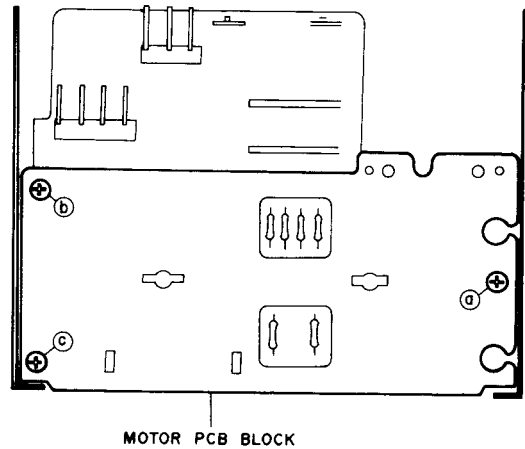

Fig. 4-9
- 2) Remove motor PCB block securing screws (a), (b) and (c) and take out the motor PCB block. (See Fig. 4-9.)